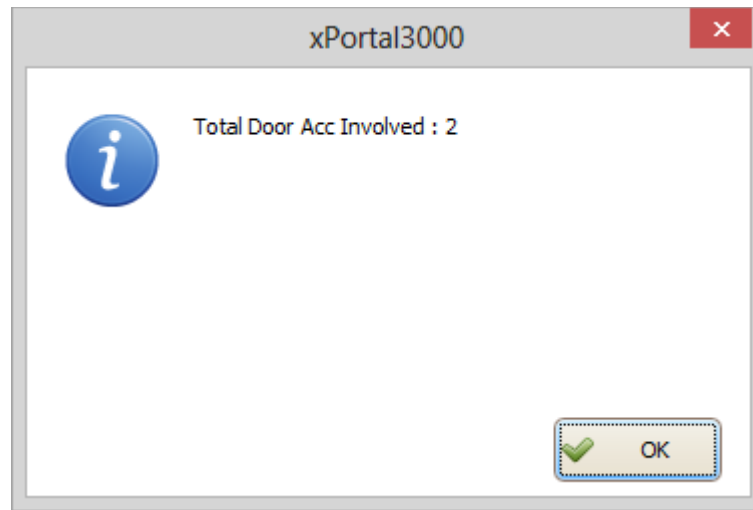

Figure 100 - Total Door Accessibility Involved
- A screen will display the total door accessibility related with the selected door (Refer **Figure 100**).